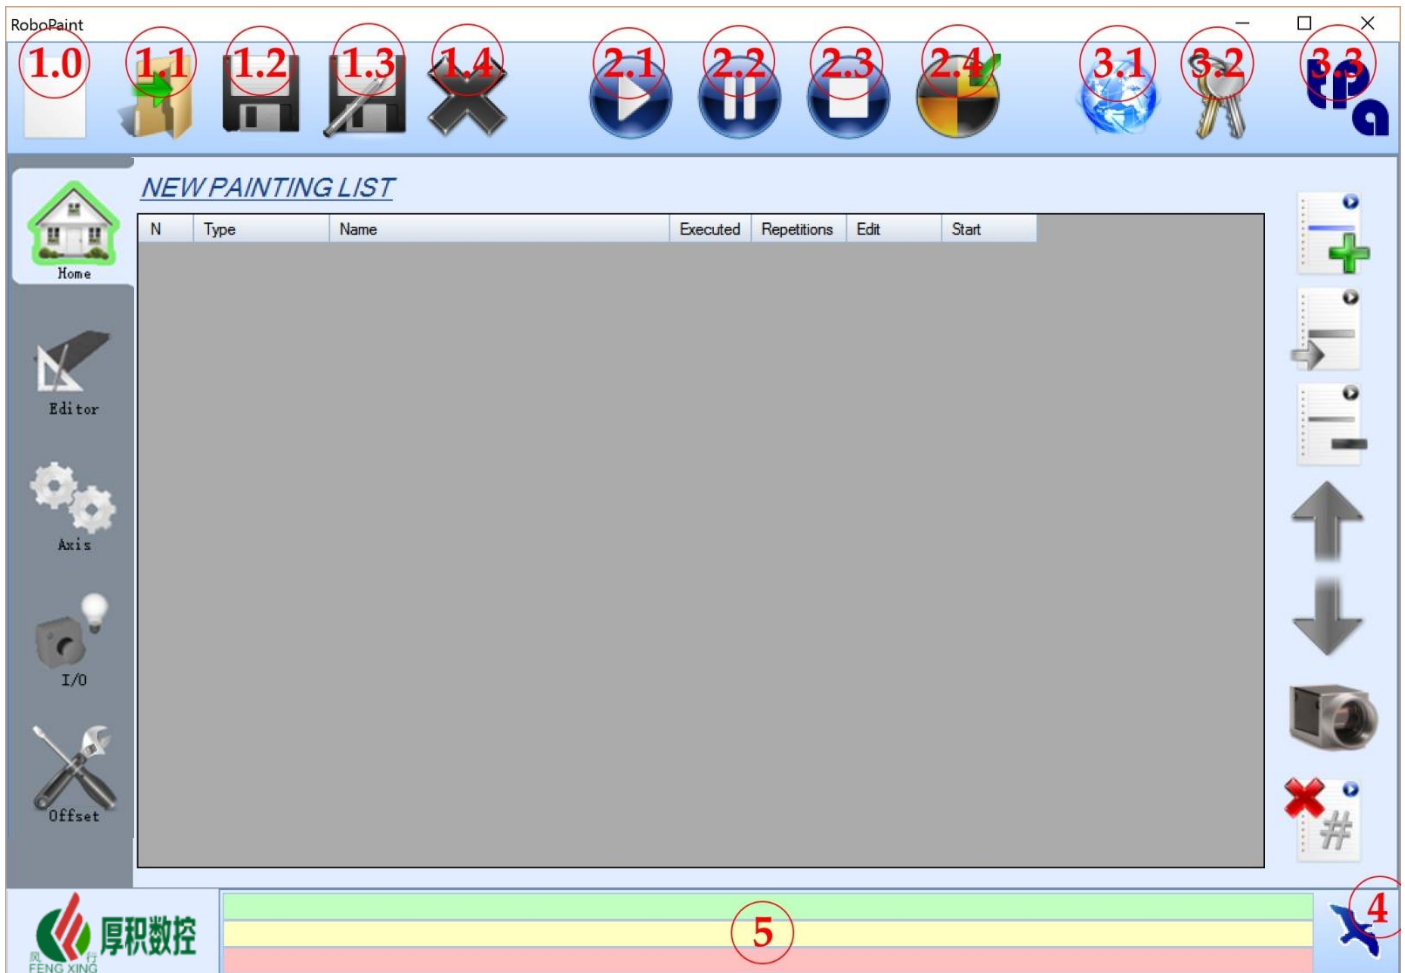

Fig.1
1. LIST: here the added programs are displayed by pressing the NEW PROGRAM button 2 or the entire loaded list by means of the OPEN command (Fig. 1, 1.1). The programs will be run sequentially according to the values of the first "N" column. In the following columns:
Once the required execution list has been created, you just need to press **START** (Fig. 1, 2.1) to start its real execution in the machine.
This is a primary section, because here the programs that must be run in the machine are set out and created. Press **NEW** (Fig. 1, 1.0) to choose the type of the program (Fig. 4) you want to create. On the other hand, the **OPEN** button (Fig. 1, 1.1) allows you to open and modify a program previously created. The areas of the section are analyzed more specifically, as follows: